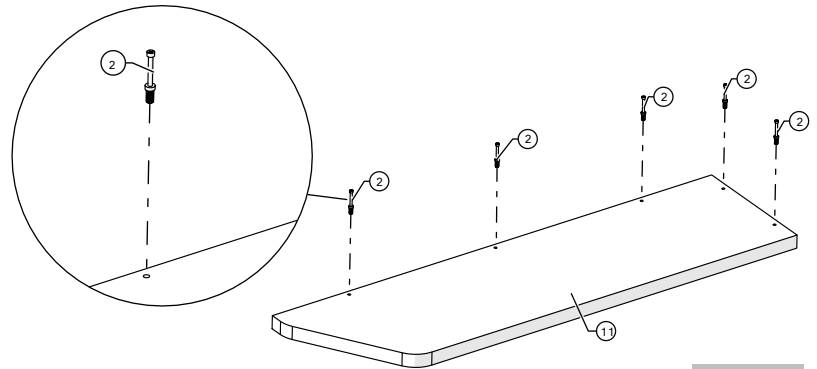

Figure 19
22. Screw in combi dowels into the pre-drilled 5 mm holes of the countertop (Figure 19).